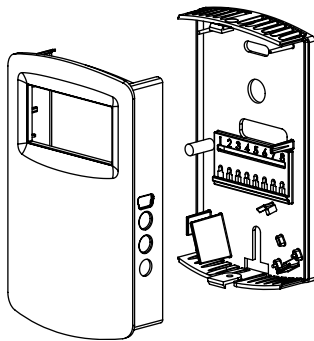

Figure 1: Removal of cover from back plate
1. Push tab on top and bottom of cover and lift cover from back plate (see Figure 1).